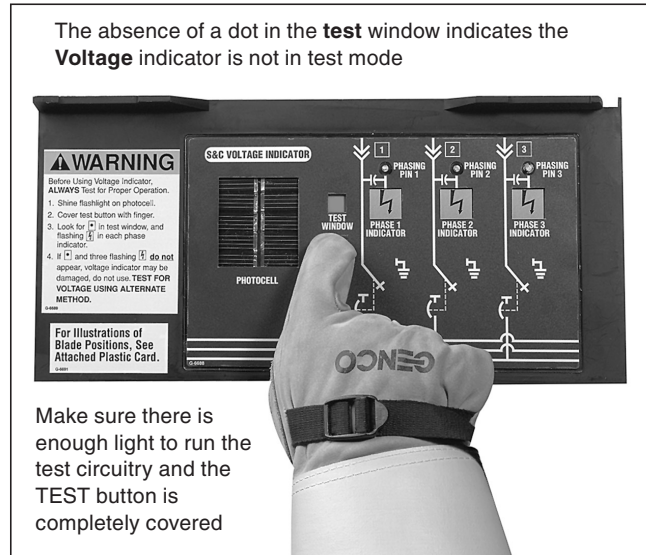

Figure 26. No dot in Test window.
- (c) If the dot  or any of the flashing lightning bolts  do not appear, make sure the test button is completely covered with a gloved finger so that no light shines on the photoreceptor. Also make sure there is adequate light (provided either by a flashlight or the sun) to power the test circuit. See Figures 26 and 27. If the dot  or any of the flashing lightning bolts  still do not appear, the **Voltage** indicator may be damaged. Test for voltage using an alternate method.